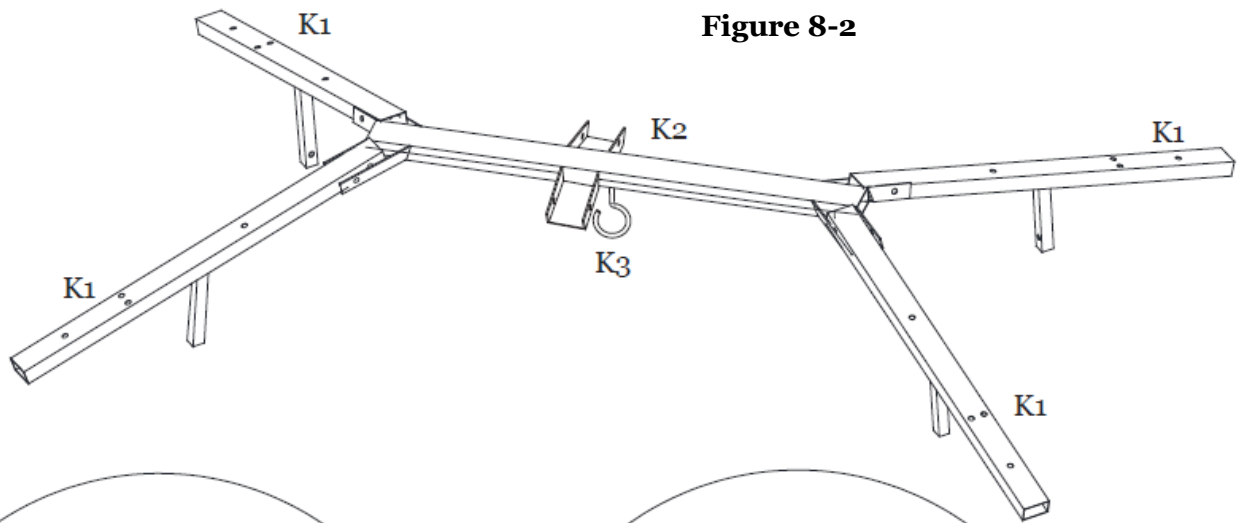
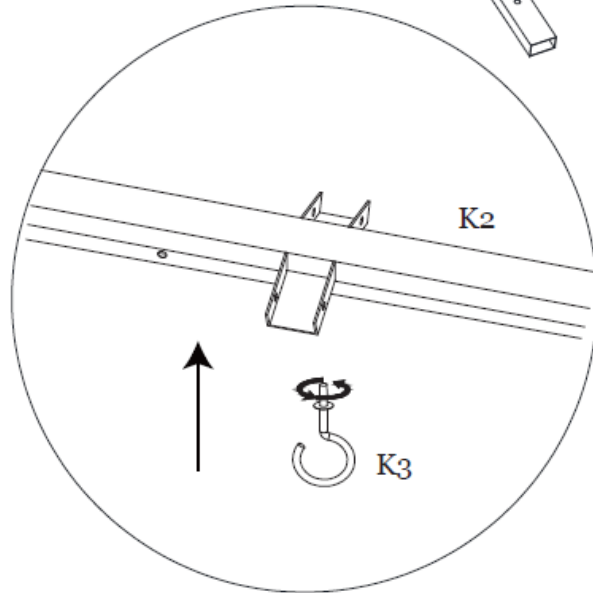

Figure 8-2
Figure 8-3
Step 8B: Repeat for all corners. **Tighten all Bolts.** See Figure 8-2.
Step 8C: Attach Roof Vent Hook (K3) to Roof Vent Center Support (K2). See Figure 8-2 and Figure 8-3.